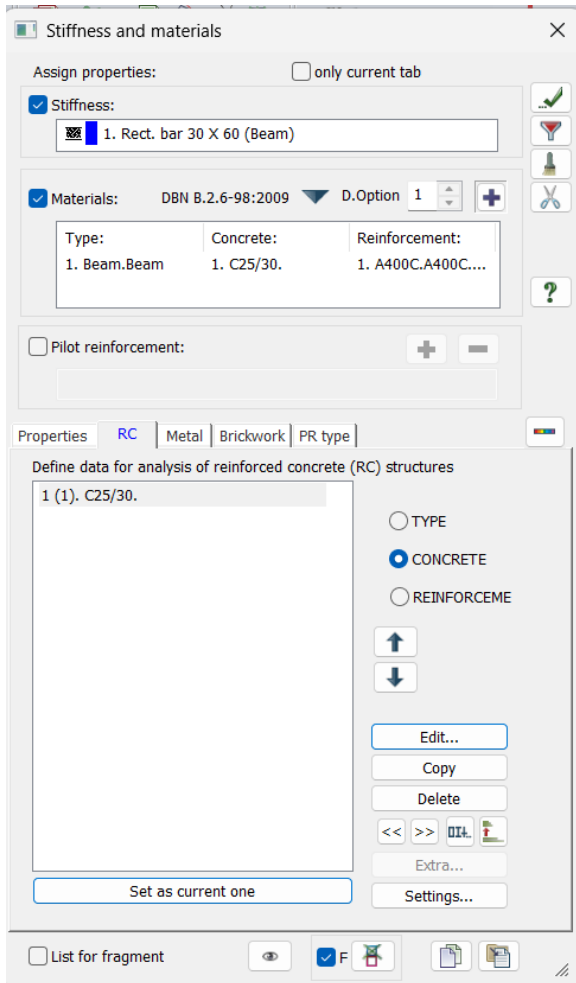

Fig. 45 – Stiffness and Materials dialog box, Reinforced Concrete tab
On the Reinforced Concrete (RC) tab in the **Stiffness and Materials** dialog box, you need to set the parameters for designing reinforced concrete structures: type, concrete, reinforcement (Fig. 45). To do this, select the Type radio button and click the Edit button.